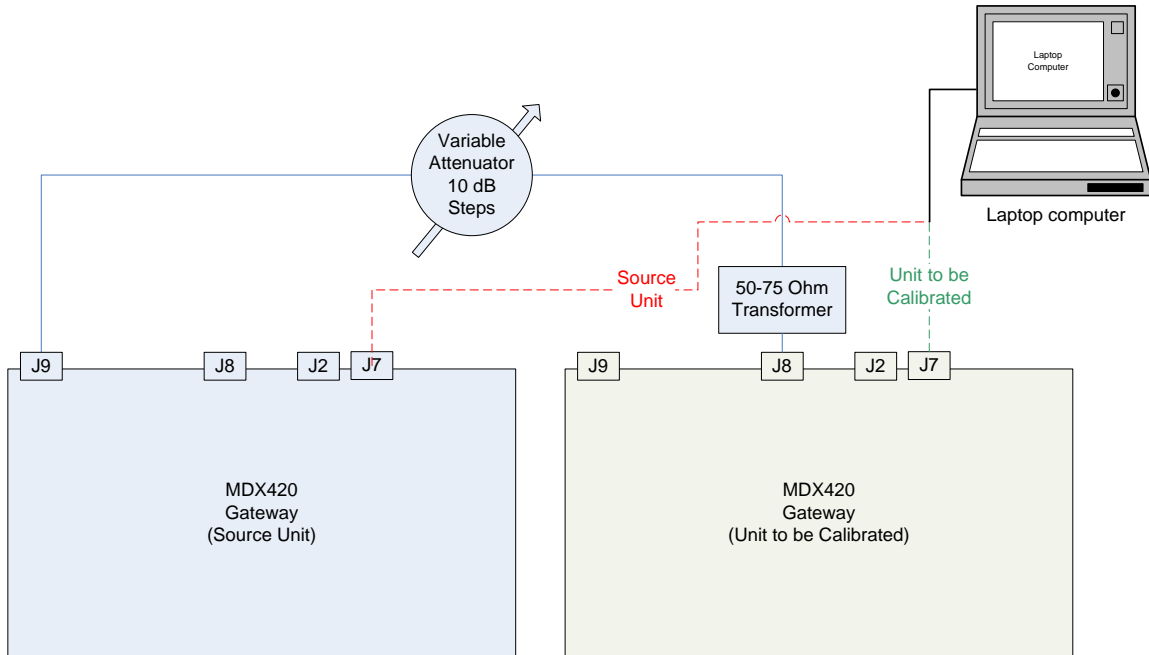

Figure 2 - MDX420 Input Level Calibration Setup
1. Cable the MDX420 Gateway per Figure 2.